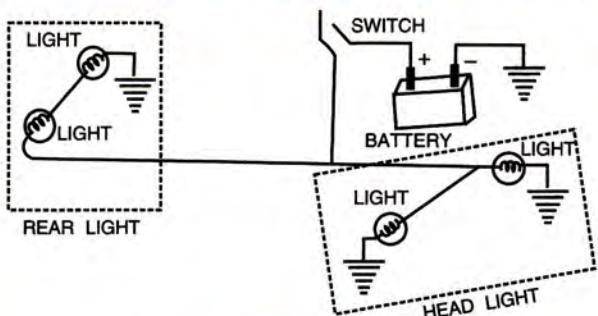

Fig. 9.8
3. The diagram in Fig. 9.8 shows the electrical system of a car to operate the two head lights and two rear lights by a switch.
Fig. 9.8 shows a connection to the body of the car.